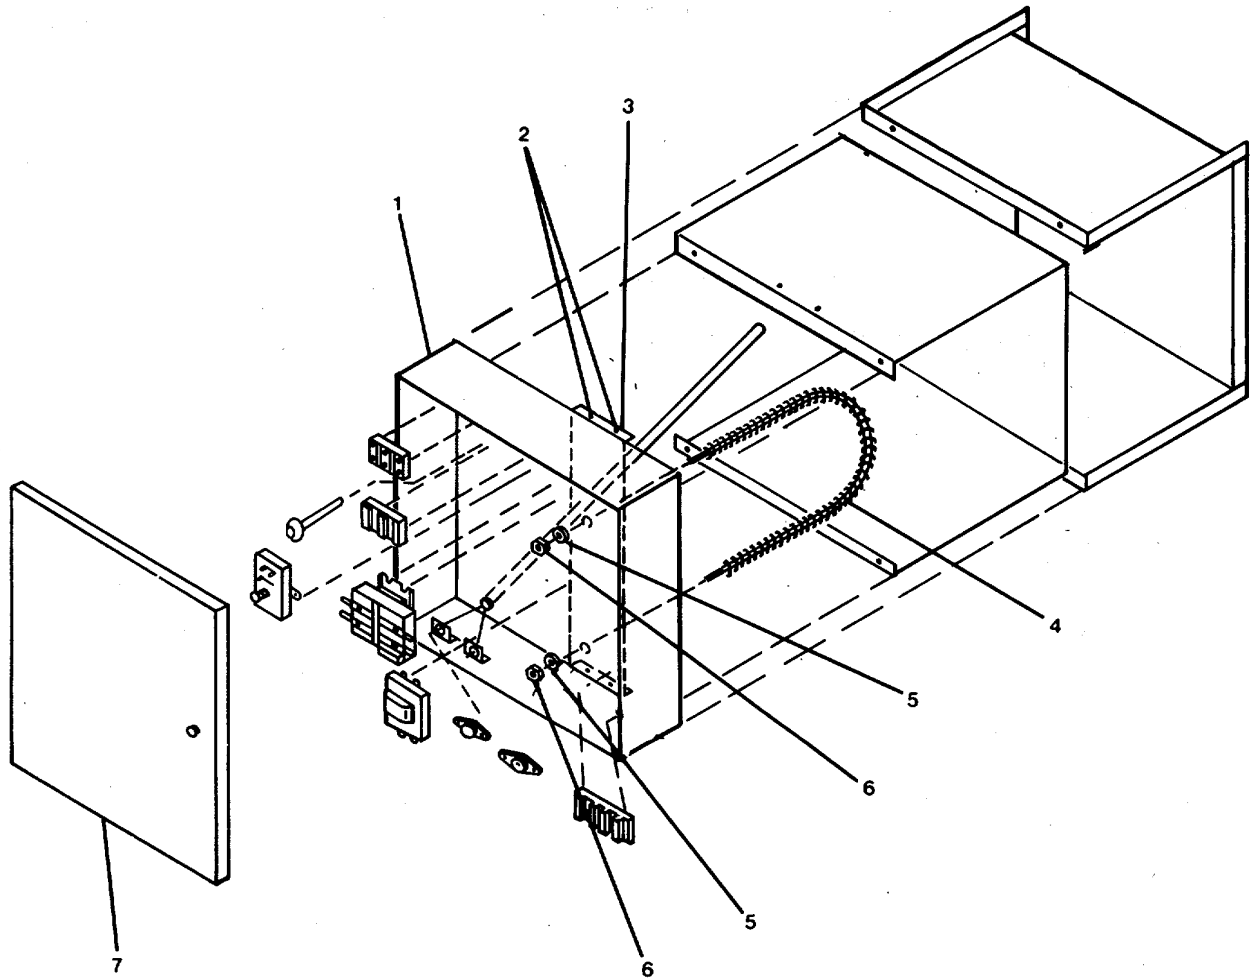

Figure 2-8. Duct Heater (Duct #2).
- (1) Unlock power panel, switch circuit breaker ON.
- (2) Refer to TM 55-1905-223-10 for details on control settings.
- (3) Close and secure heater access doors.
- (4) Remove "Out of Service - Do Not Operate" tag from circuit breaker.
**2-18. Repair Heater, Duct Type, Stationary (Duct #2). (FIGURE 2-8)**